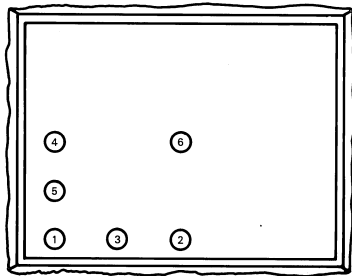

Figure 5-18. Beam Locations for Focus and Astigmatism Procedure
f. Disconnect pulse generator No. 1 and position beam to location No. 1 on screen (see figure 5-18).